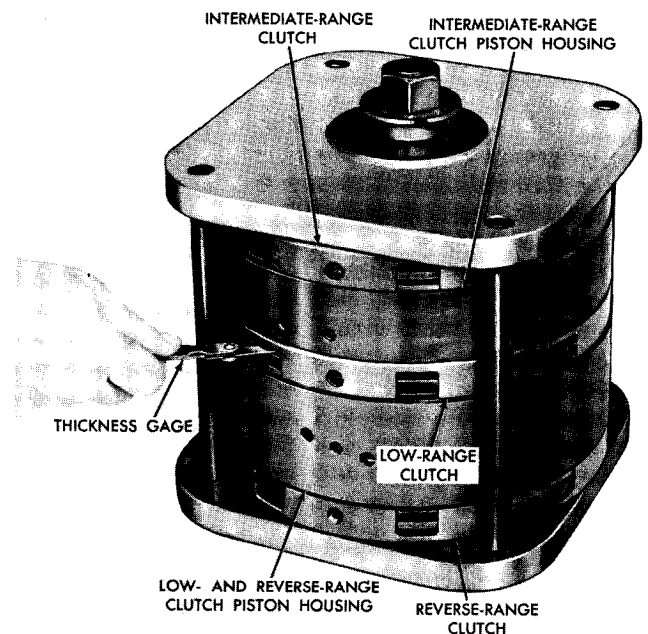

Fig. XIV-1 Checking range clutch clearances
a. When the transmission is overhauled, the running clearances of the low-, intermediate-, and reverse-range clutches should be checked prior to reassembly. These checks can be made before assembling the components into the transmission housing by using the clutch checking fixture (fig. XIV-1).
c. Install the reverse-range clutch reaction housing, slotted side upward (fig. XIV-1).
a. Using a small screwdriver, separate the top plate in each set from the plate below it and insert a thickness gage between the plates. Measure the clearance in each clutch at four of the slots (90 degrees apart) and record the average measurement for each clutch (fig. XIV-1).